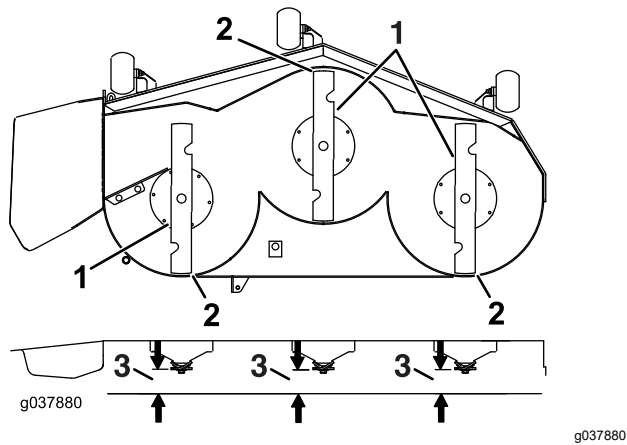

Figure 120
- 7. Check the front-to-rear blade level (Figure 120). Ensure the front blade tip is lower than the rear blade tip as shown in the block height and rake table. If adjustment is needed, continue with this procedure.